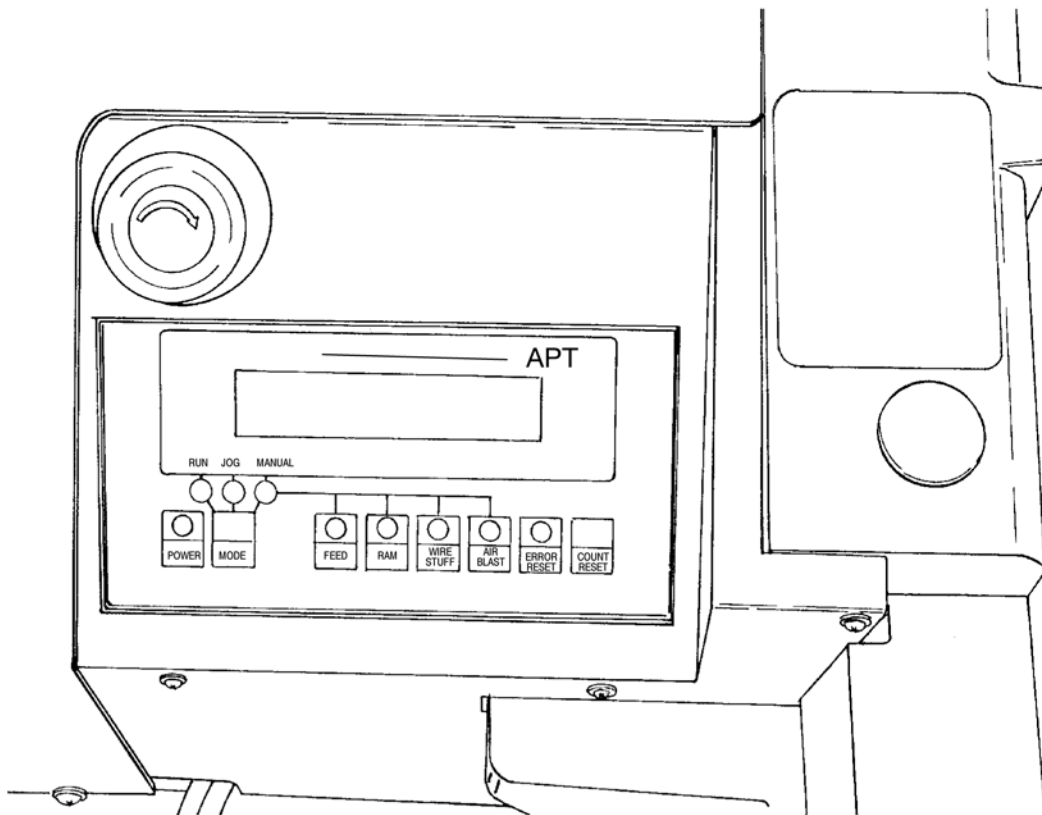

Figure 13
3. Depress the POWER button. The light above the POWER button will indicate power is "ON." Refer to Figure 13.
3. Depress the POWER pushbutton (see Figure 13). The indicator lamp above the pushbutton will light.
3. Depress the POWER pushbutton (See Figure 13). The indicator lamp above the POWER pushbutton will light.